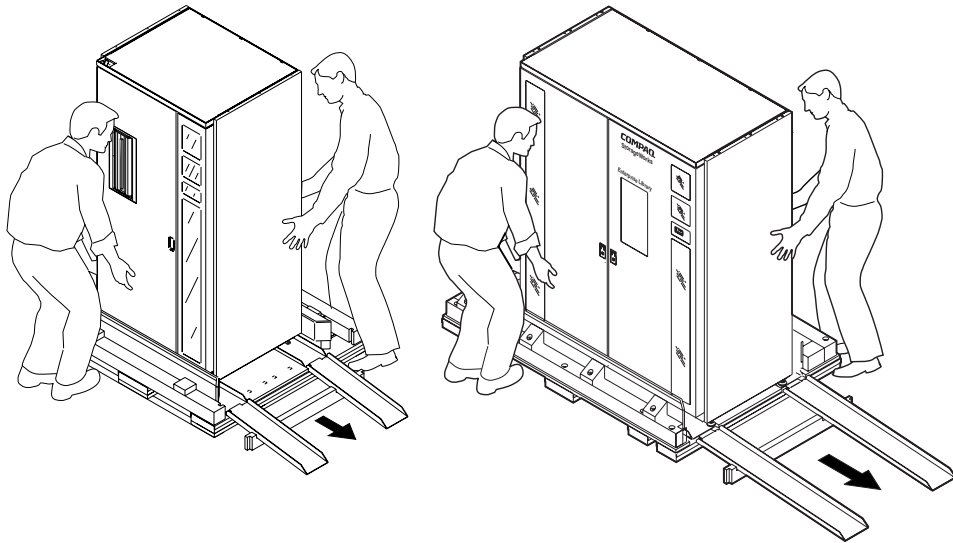

Figure 4-13. Rolling the library down the ramp
6. With the help of two people, slowly guide the library down the ramp (see Figure 4-13). Control the speed of its descent.